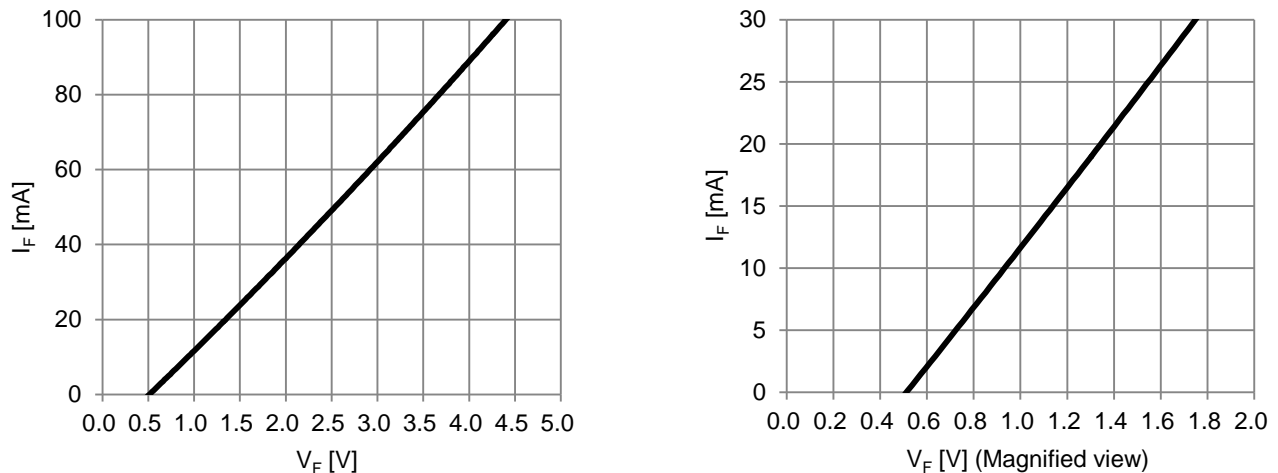

Figure 2. Built-in Bootstrap Diode V_F - I_F Characteristic ($T_C=25^{\circ}C$)
- The characteristics of bootstrap diodes are shown in Figure 2.